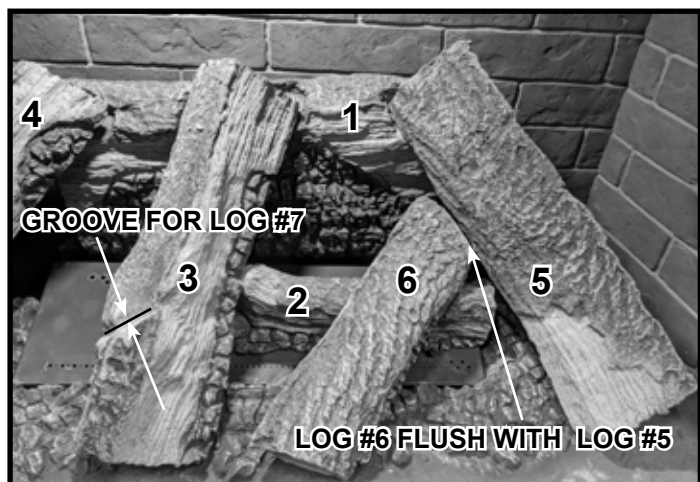
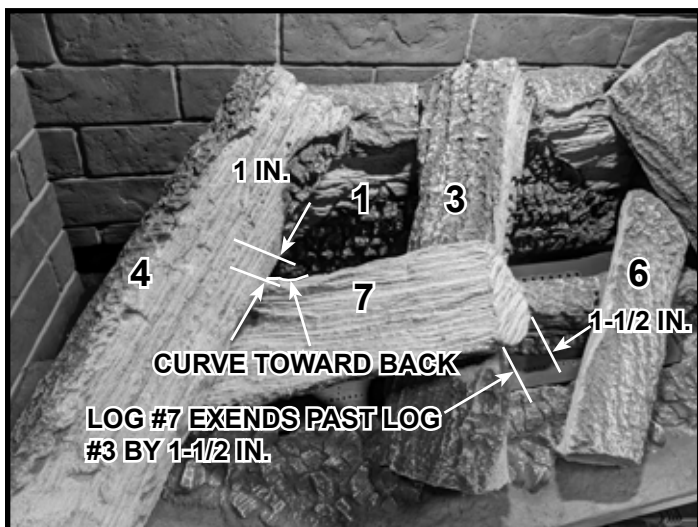

Figure 8 Place Log #6
Figure 9 Place Log #7
**Log #6:** Log #6 rests on the flat spot of Log #2 as shown in Figures 7 and 8. The top end of Log #6 is positioned flush with Log #5 shown in Figure 8. Position other end of Log #6 as shown in Figure 8.
**Log #7:** Place Log #7 with the split side up and the curve toward the back of the firebox as shown in Figure 9. Log #7 will rest on the groove of Log #3 shown in Figure 8. The right side of Log #7 extends past Log #3 by 1-1/2 inches as shown in Figure 9 and 10. The space between the bottom of the burned out area on Log #4 and the intersection of Log #4 and Log #7 equals one inch as shown in Figure 9.